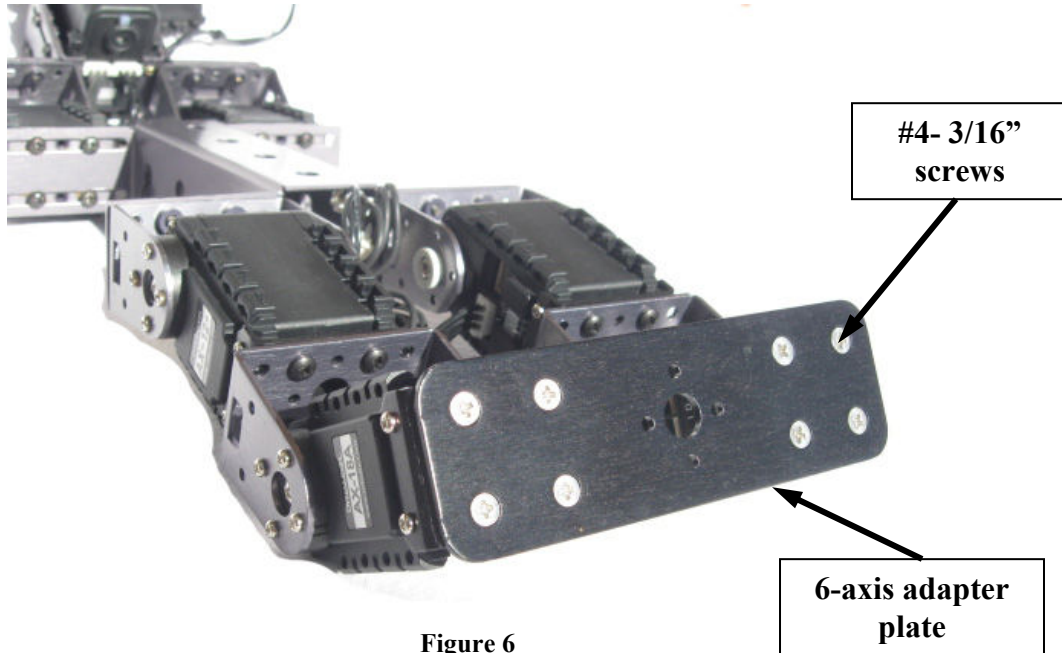

Figure 6
- Using (8) #4 3/16" screws, mount the 6-axis adapter plate to the bottom of the assembly from step 5. Be sure to orient the 6-axis mounting plate so that the screw heads fit into the counter sunken holes in the adapter plate as shown in figure 6.